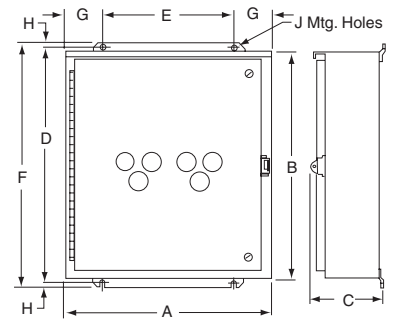

Figure 3
**Table 16.250: NEMA 4 Enclosure—Non-Combination (Figure 3)**
**Table 16.252: NEMA 12/3R Enclosure—Non-Combination (Figure 3)**